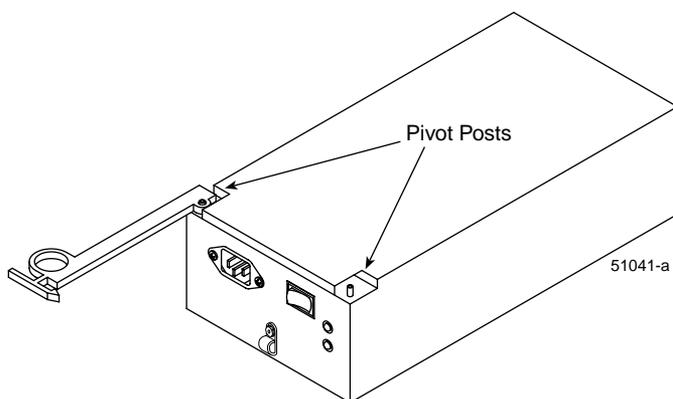

Figure 7-5 Power Supply Canister Lever
10. Check the lever to make sure the orientation is the same as the canister it is replacing. If not, move the lever to the pivot post on the other side (Figure 7-5).